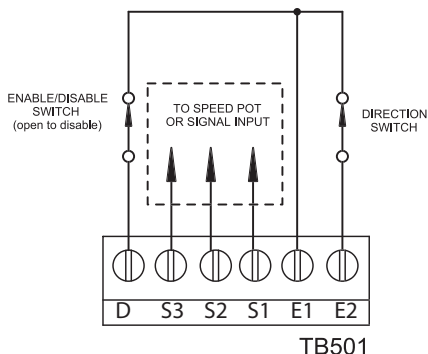
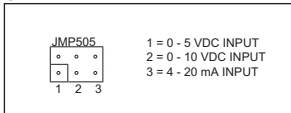

Figure 21. Signal and Optional Switch Connections for VFDx4X and VFD05
Figure 22. Jumper Settings--JMP504 and JMP505
Connect a single-pole, single-throw DIRECTION switch between the (D) and COMMON (E1) terminals as shown in Figure 21 (page 27). Opening the switch will cause the motor to rotate in the forward direction; closing the switch will reverse motor rotation. The DIRECTION input is isolated.
Drives can be configured to follow an isolated or a grounded (non-isolated) voltage or current signal. To configure the drive to follow a voltage or current signal, connect the signal leads to the S1 and S2 terminals on TB501 as shown in Figure 21 above. Ensure that the following jumper terminals are properly set as shown in Figure 22 (page 28).